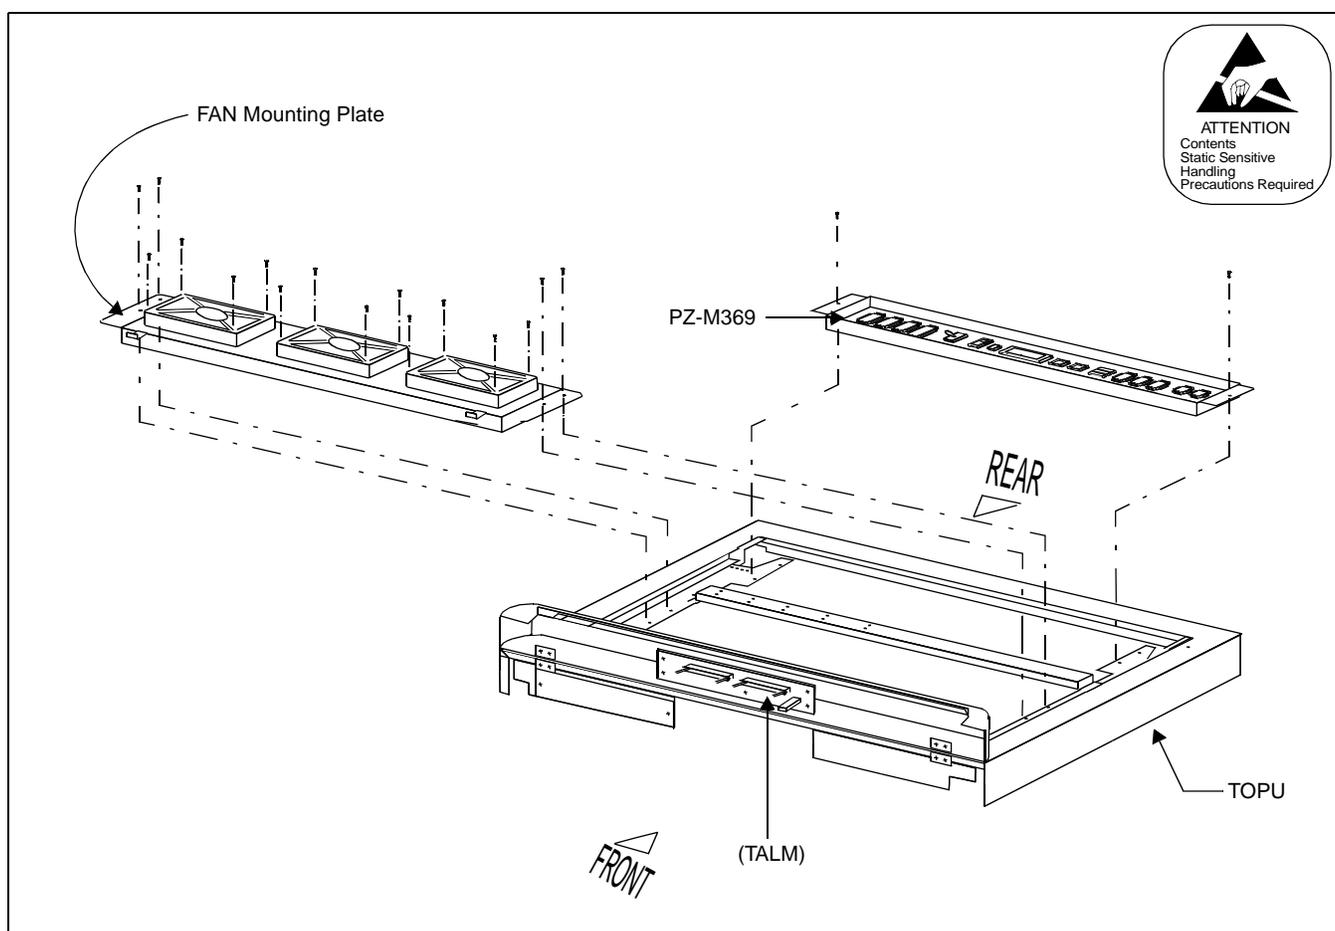

Figure 005-3 Mounting of FANU (on TOPU)
When any IMG is configured by two PIMs or less, the FANU is mounted as shown in Figure 005-3. Because the FANU is already mounted on the TOPU of the cabinet, perform Step 4 through Step 7 only, excepting a special case (Step 1 through Step 3 are not required in the normal cases).
- STEP 1 : Referring to Figure 005-3, mount the three FANs onto the FAN Mounting Plate. Then, fasten every four screws.
- STEP 2 : Accommodate the FAN Mounting Plate (tipped with three FANs) onto the TOPU. Then, tighten the four screws (refer to Figure 005-3).
- STEP 3 : Mount the PZ-M369 onto the TOPU. Then, fasten the two screws (also refer to Figure 005-3).
Note 2: For details on the TALM connector (TOPU panel), refer to Figure 005-3.
When any IMG is configured by three or four PIMs, the FANU must be accommodated within the FAN BOX in the center of the cabinet. Because the FANU is originally mounted on the TOPU as shown in Figure 005-3, relocate the FANU into the dedicated FAN BOX per the Steps below:
STEP 7 : Referring to Figure 005-3, remove the FANU from the TOPU.